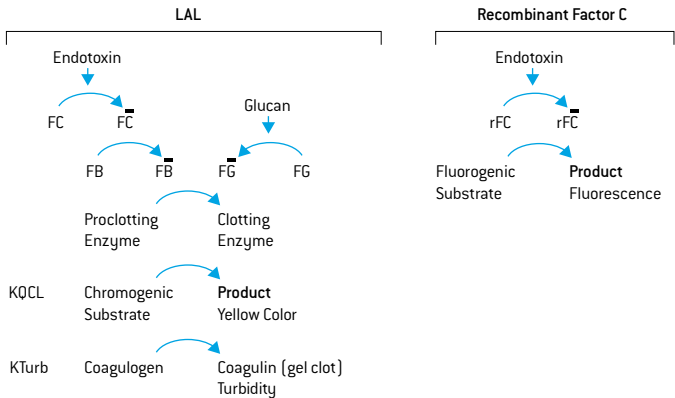

Figure 1. Schematic drawing of the endotoxin detection mechanisms in the LAL system and the rFC system.
The protease cascade and rationale of traditional LAL tests are illustrated in the LAL Pathway, Figure 1 (next page). Factor C, the first component in the cascade, is a protease zymogen that is activated by endotoxin binding^{5,6,7}. In this pathway, Factor B (FB) is activated by Factor C. An alternative pathway, the Factor G (FG) pathway, can be activated by glucan binding⁸. Downstream, Factor C and Factor G pathways individually activate a proclotting enzyme into a clotting enzyme. The chromogenic LAL assay (Lonza's Kinetic-QCL™ Assay) uses a synthetic chromogenic peptide substrate that can be cleaved by the clotting enzyme, resulting in a product that exhibits a yellow color. The turbidimetric assay (Lonza's PYROGENT™-5000 Assay, KTurb) uses the native substrate, coagulogen, which can be cleaved into coagulin. Coagulin then begins to self-associate, resulting in an increase in turbidity. The densities of the yellow color (OD 405 nm) and turbidity (OD 340 nm) are correlated with endotoxin concentration.
Recombinant Factor C is activated by endotoxin binding, and the active moiety created then acts to cleave a synthetic substrate resulting in the generation of a fluorogenic compound (Figure 1, rFC pathway). The assay is carried out in a 96-well plate. Fluorescence is measured at time zero and after a one-hour incubation at $37^{\circ}\text{C} \pm 1^{\circ}\text{C}$ in a fluorescence microplate reader using excitation/emission wavelengths of 380/440 nm. The difference between the one-hour reading and the time zero reading (ΔRFU) is corrected for blank ΔRFU fluorescence. The log net fluorescence is proportional to the log endotoxin concentration and is linear in the 0.005 to 5.0 EU/ml range. Endotoxin in a sample is calculated relative to a standard curve.